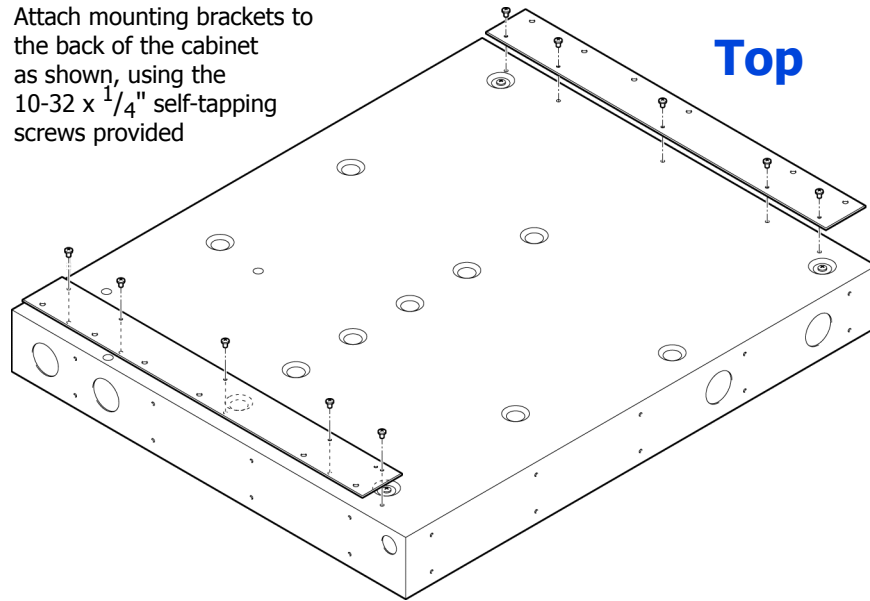

Figure 2 - Surface Mount Hardware
- 1 Locate the Surface Mount Hardware and place them on the back of the top and bottom of the cabinet as shown in Figure 2.